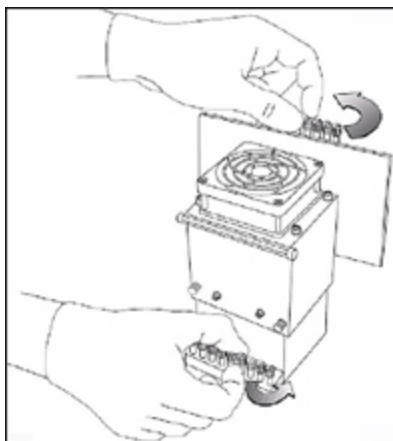

Figure 6-59 Releasing the locking screws
17. Tighten the upper and lower screws that secure the print head in the print block (see Figure 6-59 on page 6-45).